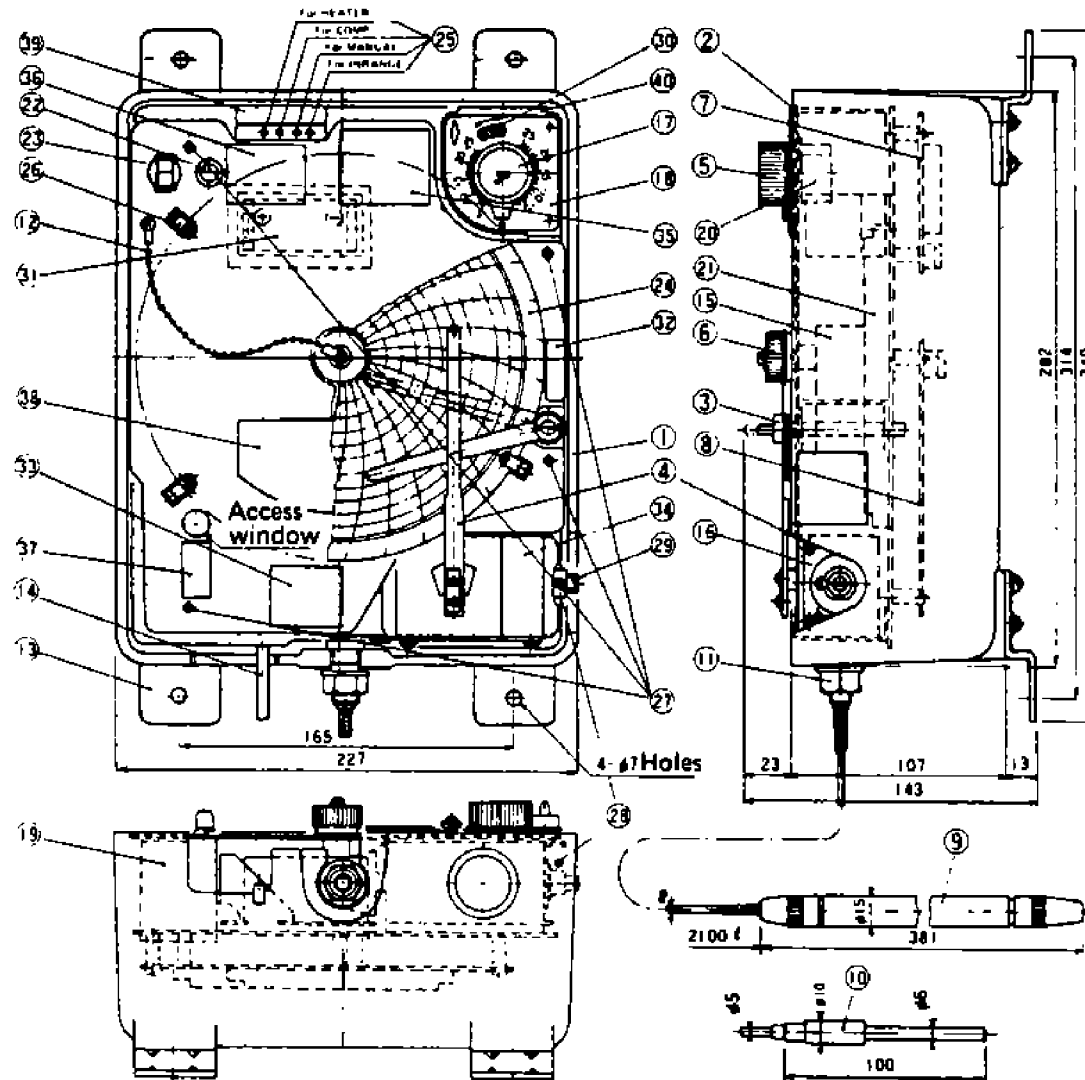

Fig. 1 Structure
- External wiring (Wiring from the devices in the control box to the unit . . . . . to Terminal 21 in Fig. 1)
**(2) Recording part**